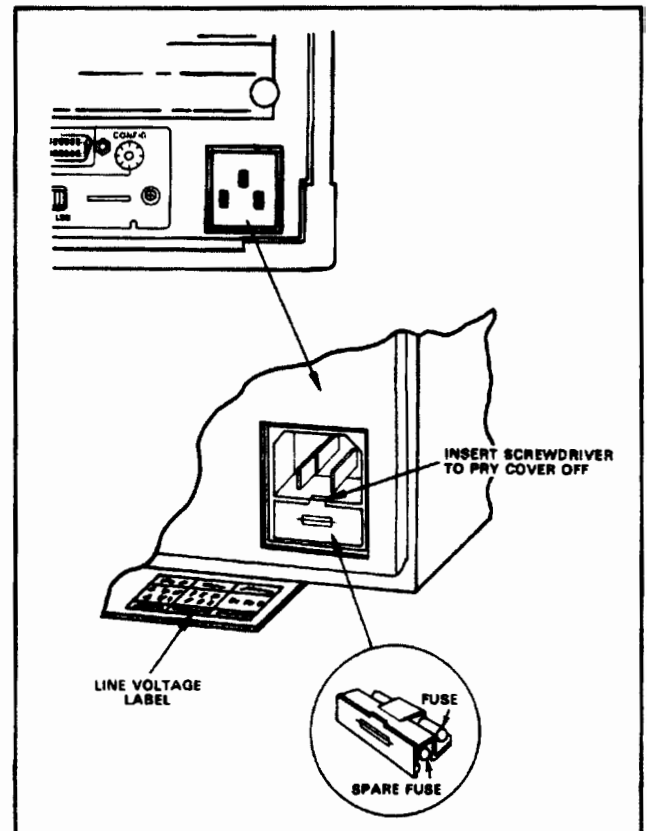

Figure 2-7. Removing the Line Fuse.
- a. **A-C Line Fuse.** The line fuse is in a fuseholder located just below the a-c input socket (see Figure 2-7). Use a screwdriver to extract the fuseholder from underneath the a-c socket. Check that the fuse (and the spare inside the fuseholder cover) has the following value: